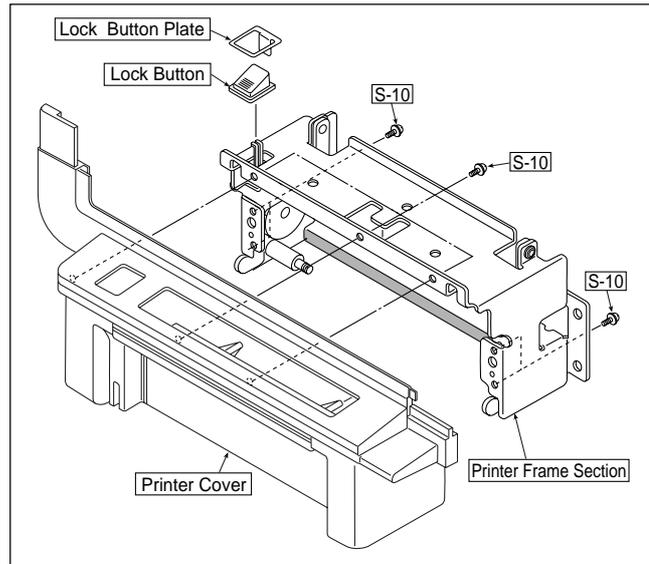

Fig. 14
12) Remove the Printer Frame Section. (See Figure 14.)
1. Remove the "S-10" screws as shown in Figure 14. (Tightening torque :  $6 \pm 1.8 \text{kgfcm}$ )